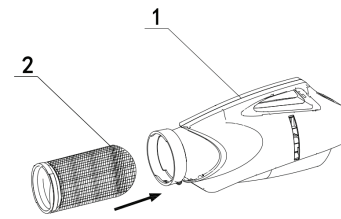

Fig 1
2. Connect the small end of the cable (7) into the vacuum body (1) charging receptacle. See fig 1. The indicator light will turn on. After being fully charged, the adapter indicator light turns green
1. Insert the filter bag with gasket (2) into the vacuum body, see fig 1;